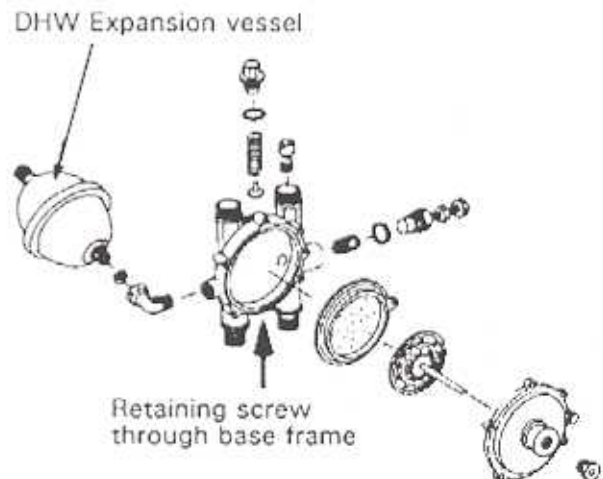

Fig.39
Refer to fig.39
- 8.19.5 Remove manifold (fig.39) gives details of further disassembly.